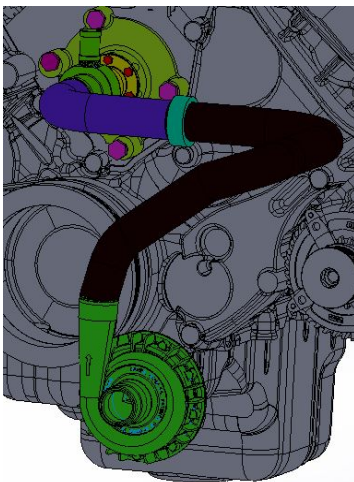

Figure 3
7. Place the Nylon In-Line Adaptor provided into the bottom of the 90° hose. Place a hose clamp provided in place, do not fully tighten. Connect a section of the bottom radiator hose (*if serviceable*) to the other end of the In-Line Adaptor with a hose clamp provided, (refer Figure 3), do not tighten. Screw the Heater Return Adaptor & Hose Fitting (refer Figure 3, if applicable) into the EWP® inlet then position and align the EWP® with the bottom radiator outlet. You may wish to use “Loctite” or Teflon tape for added security on the threads to ensure no coolant leaks develop. Secure the Heater Return Hose to hose fitting. Ensure your EWP® is located as low as possible relative to the Radiator outlet to avoid trapped air. Check you have enough length of bottom connector hose, (*the remainder of your current bottom radiator hose may be suitable for this purpose,*) connect the radiator hose with a hose clamp provided to the EWP® inlet. Then fit the other end to the bottom radiator outlet with a hose clamp.